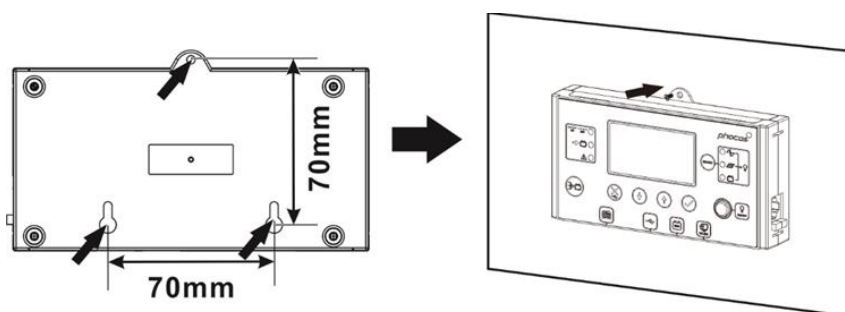

Fig. 12: Remote display mounting hole locations
5. Drill the three mounting holes in the marked distances of 70 mm, 2.76 in into each other (**Fig.12**, left). Use M3, size no. 4 diameter screws. The screw heads must be between 5 ~ 7 mm, 0.2 ~ 0.3 in. Screw the bottom two screws into the wall where the display module is to be mounted and let the screw heads protrude 2 mm, 0.08 in. from the wall. Slide the display down on the protruding screw heads. Now insert and tighten the third screw at the top (**Fig.12**, right).